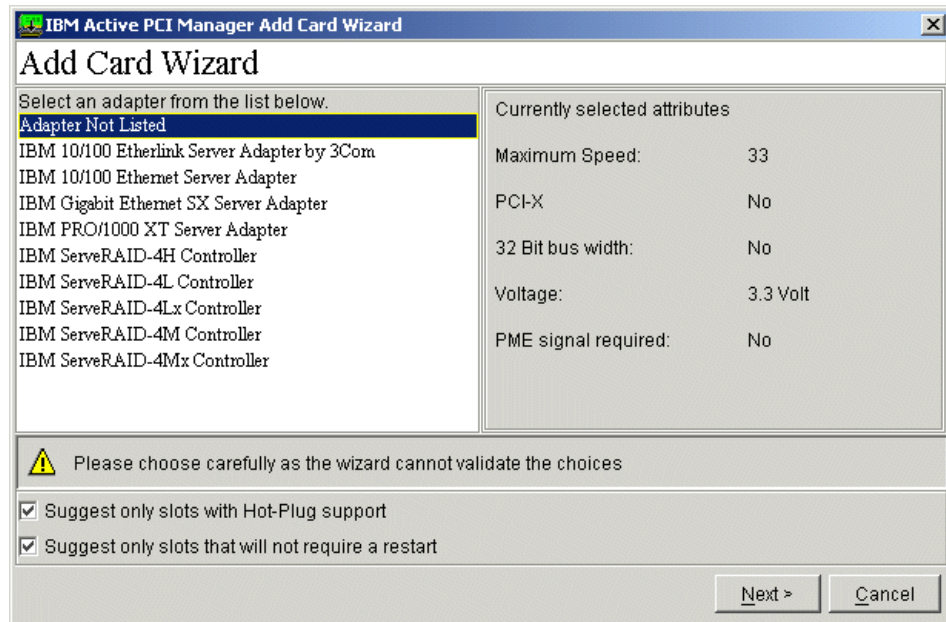

Figure 5-7 Add Card Wizard
1. Select **Tools -> Add Card Wizard**. You are presented with Figure 5-7.